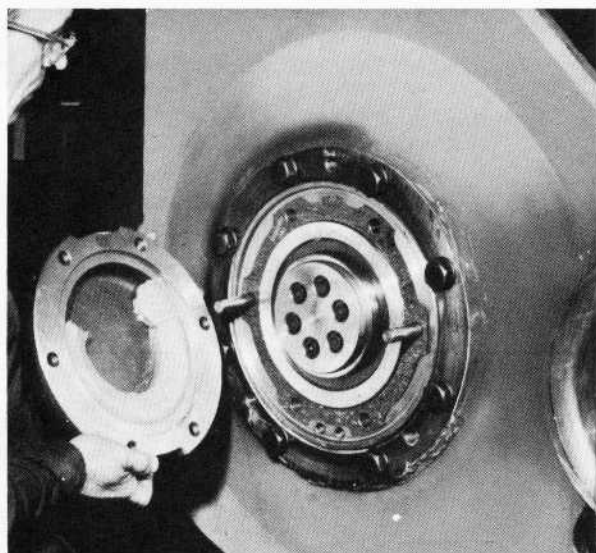

Fig. 11 - Applying C.E. Bearing Cover
9. When applying caps and covers, be sure grease arc is at lower portion of part, Fig. 11.